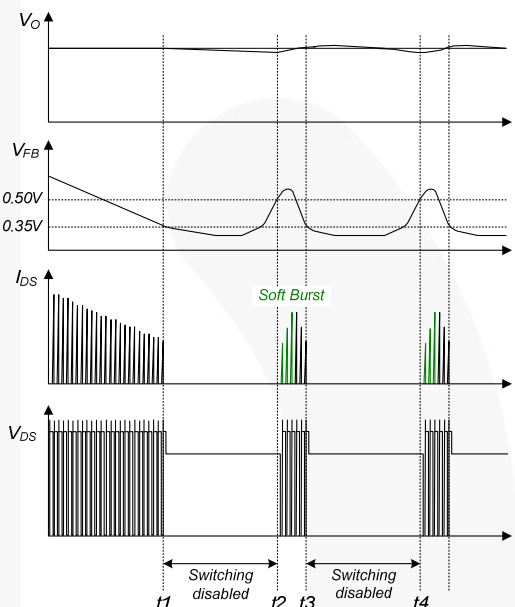

Figure 23. Burst-Mode Operation
**5. Soft Burst-Mode Operation:** To minimize power dissipation in Standby Mode, the FSL156MRBN enters Burst-Mode operation. As the load decreases, the feedback voltage decreases. As shown in Figure 23, the device automatically enters Burst Mode when the feedback voltage drops below  $V_{BURL}$  (350mV). At this point, switching stops and the output voltages start to drop at a rate dependent on standby current load. This causes the feedback voltage to rise. Once it passes  $V_{BURH}$  (500mV), switching resumes. The feedback voltage then falls and the process repeats. Burst Mode alternately enables and disables SenseFET switching, reducing switching loss in Standby Mode.